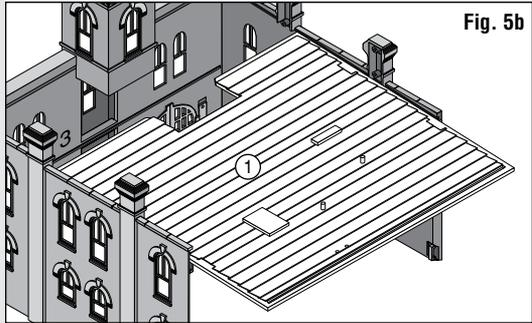

Fig. 5b
- Align Roof ① in Wall grooves and slide into place (Fig. 5b).
- Snap Back Wall ② into place and apply glue along inside seams.